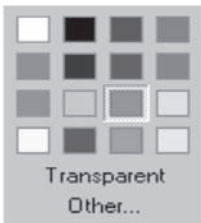

Fig. 4.40
2. Set Hot Area background. Click the **quick icon**  of the background setup, the dialogue block, as in Fig. 4.40 of colour will be seen. The background colour can then be set in the diagram.